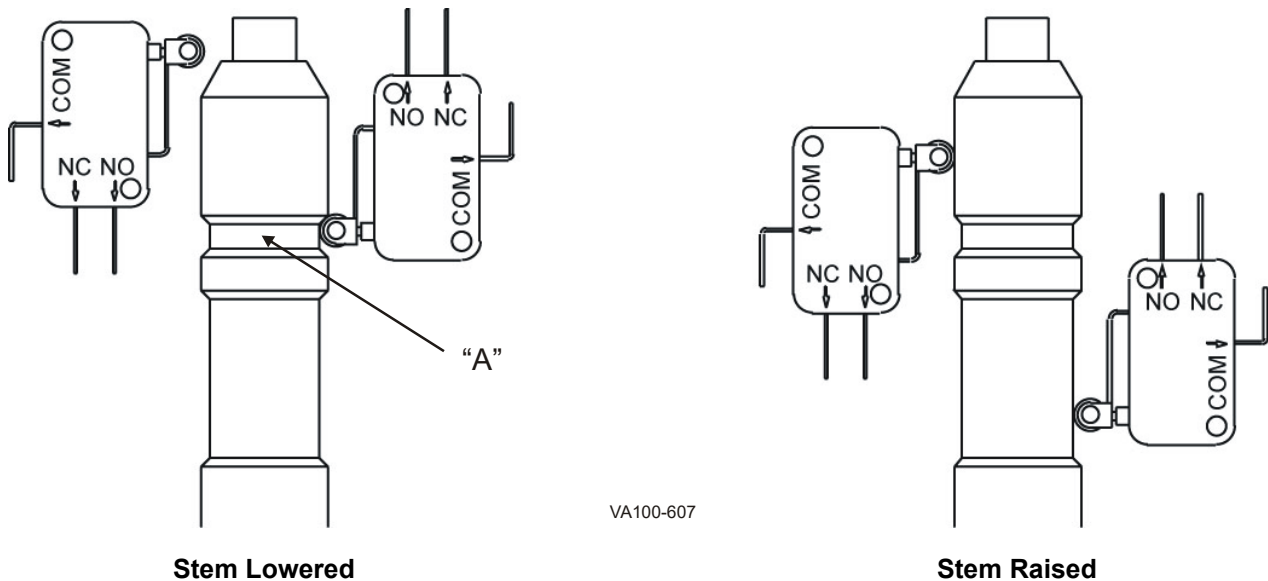

Figure 26: Groove "A" Location
4. Move the switch toward the stem until the switch roller is close to breaking the circuit (Figure 26 on page 26).
7. Move the switch up or down until the roller is in the groove marked "A" (Figure 26 on page 26).
3. Move the switch up or down until the switch is just above the notch in the stem (Figure 26 on page 26).
5. Put the valve in Divert mode, stem lowered. Check that the switch roller is resting on or slightly above the 45 degree bevel on top of stem (Figure 26).
1. Put the valve in Forward Flow mode, stem raised. Adjust the switch up or down so the roller rests on the upper part of the stem (Figure 26).
5. Adjust the switch up or down so the roller is resting on or slightly above the 45 degree bevel on top of stem (Figure 26).